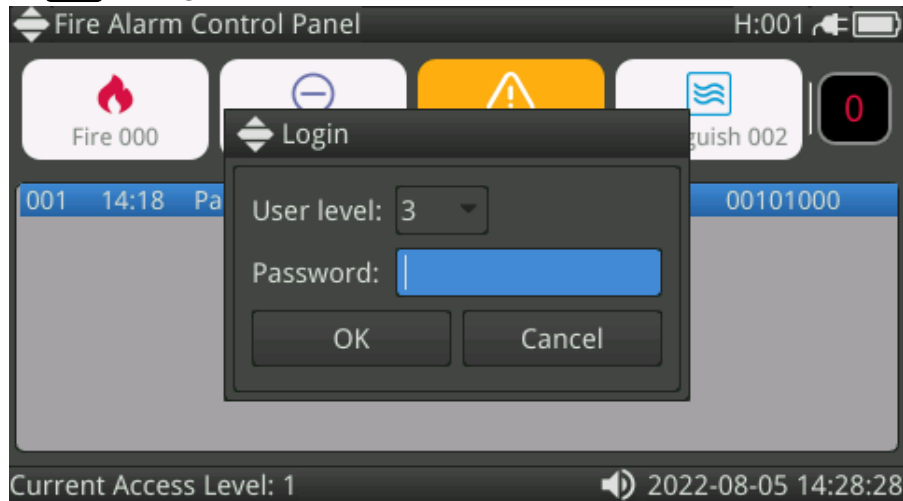

Figure 3-2 Password login window
- ✧ Press , and then the login window will pop out. (see Figure 3-2) Users can use  to switch to 'User level' to select the level, and then use  to switch to 'Password'